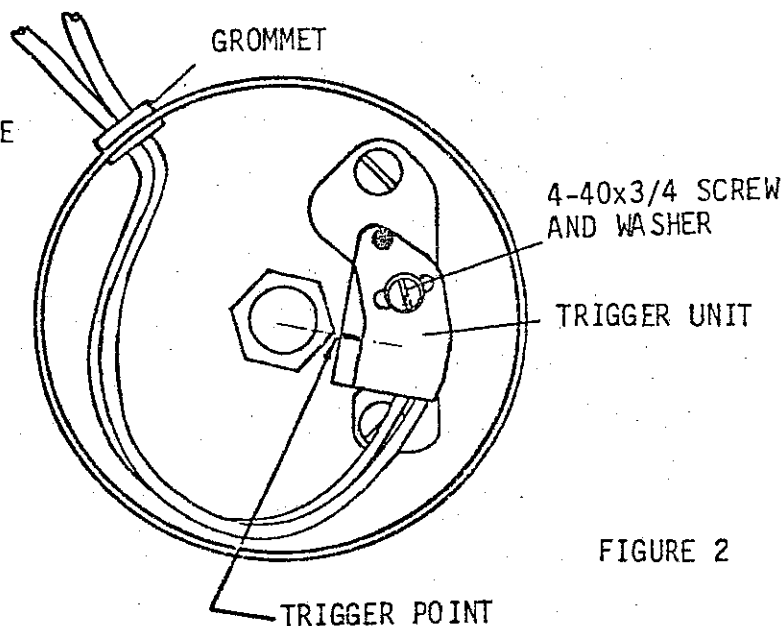

FIGURE 2
6. Mount magnetic pick up assembly to adapter plate with screw provided in hardware package. Tighten pick up assembly screw only enough to keep the assembly in position. (see figure 2).